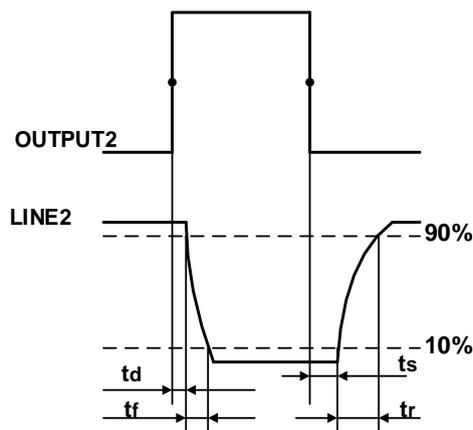

Figure 7-11 Parameter of opto-isolated output circuit
- Rising time delay = t_r+t_d : $<20\mu s$ (0°C~45°C) (parameter description as shown in Figure 7-11)
- Falling time delay = t_s+t_f : $<20\mu s$ (0°C~45°C) (parameter description as shown in Figure 7-11)
- Rising time delay = t_r+t_d : $<20\mu s$ ($0^\circ C\sim 45^\circ C$) (parameter description as shown in Figure 7-11)
- Falling time delay = t_s+t_f : $<20\mu s$ ($0^\circ C\sim 45^\circ C$) (parameter description as shown in Figure 7-11)